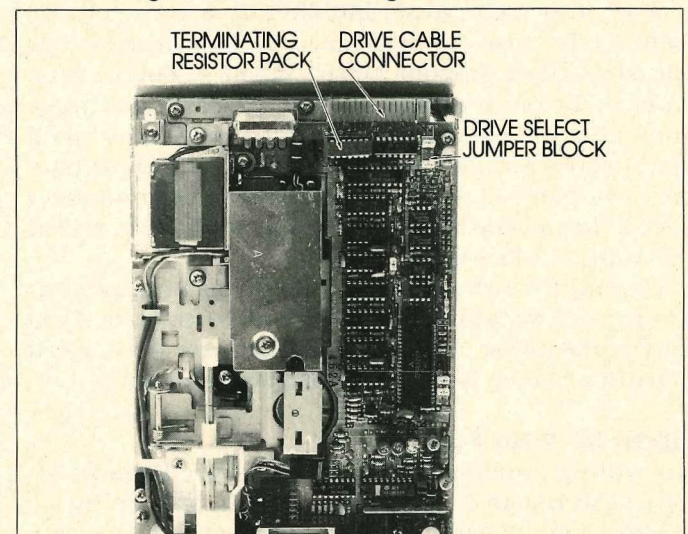

FIGURE 2: Top of Shugart SA455 Floppy Disk Drive
**Configure the Drive.** Each drive needs two options set—the *terminating resistor*, which tells the computer whether a drive is the last one on the cable, and the *drive select jumper*, which tells which drive it is (A, B, C, etc.). These two options are usually found on the top of the drive at the back, near the drive cable connector, though their exact location varies with different brands. Figure 2, below, shows their location on a Shugart drive. (*Editors' note: The preferred method to obtain drive configuration information is to purchase the manual, usually the OEM manual, for any drive that you will be working with.*)